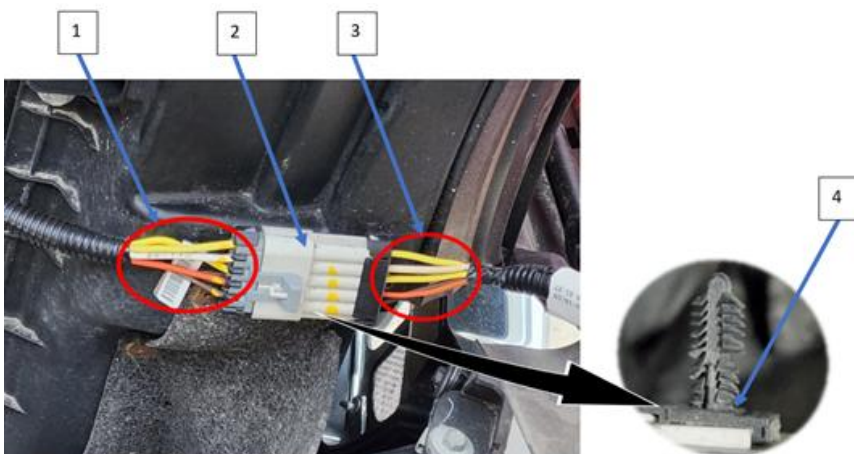

Figure 4. Passenger-Side Headlight Assembly Harness
12. Carefully remove fir tree (Figure 4, Item 4) with connector 8000F (Figure 4, Item 2) from radiator shield.
13. Inspect headlight assembly harness (Figure 4, Item 3) and chassis forward harness (Figure 4, Item 1) for any damage to the wires.